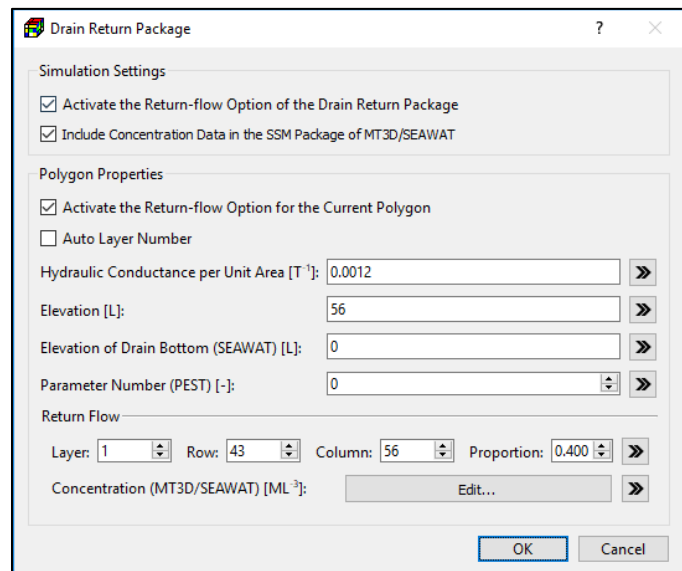

Figure 57. The Drain Return Package dialog box for specifying polygon properties
4. **Polygon input method:** Figure 57 shows the dialog box that is used to specify polygon properties.